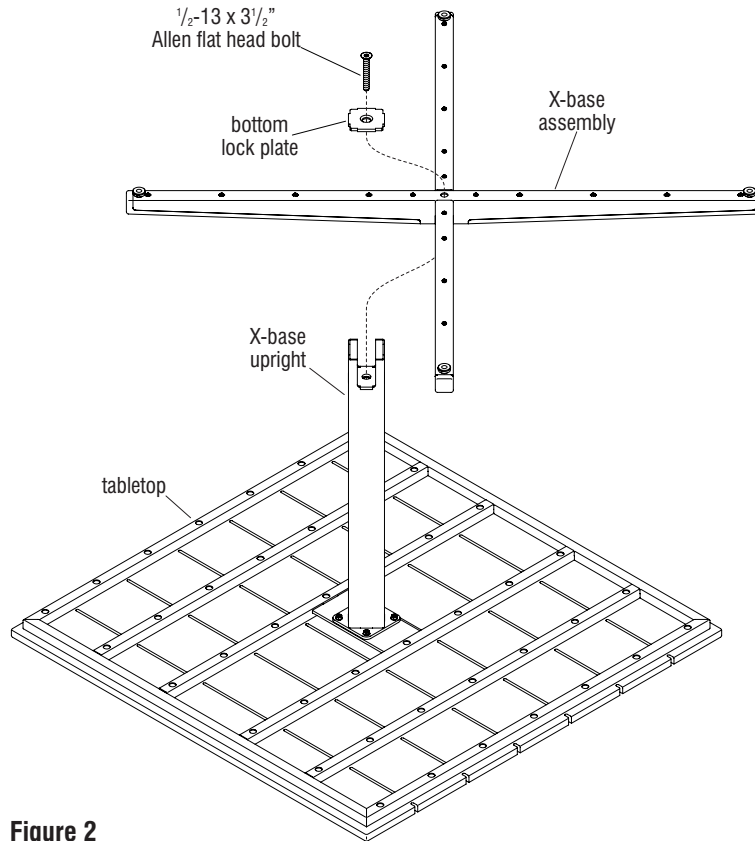

Figure 2
4. Position the X-base assembly over the bottom of the X-base upright as illustrated and nest the center of the X-base into the bottom of the upright. Orient the bottom lock plate with the tapered sides of the center hole facing up, then nest it squarely over the base parts. Secure the parts together using a $\frac{1}{2}$ -13 x $3\frac{1}{2}$ " Allen flat head screw (Figure 2).